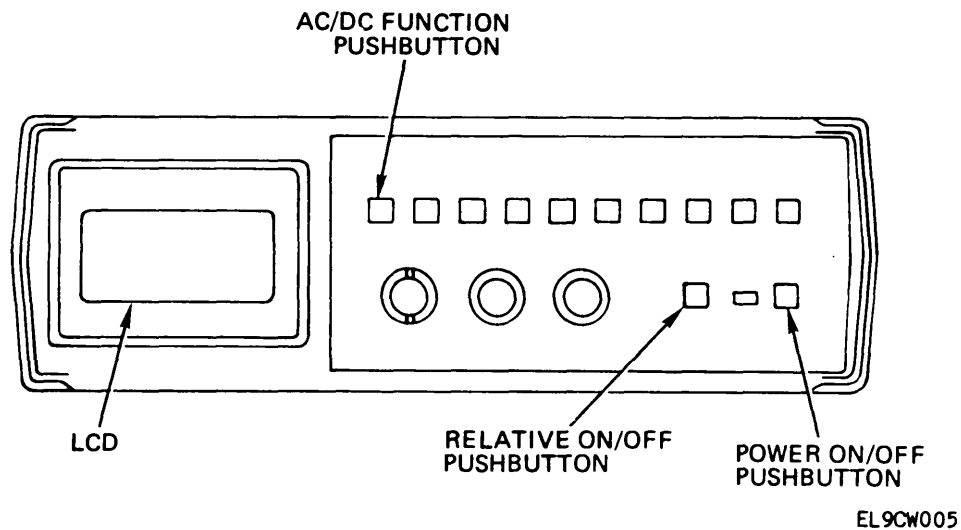

Figure 1-4. POWER, RELATIVE, and AC/DC Pushbuttons
b. **POWER ON/OFF Pushbutton.** The green POWER ON/OFF pushbutton (figure 1-4) is a push-push switch. In is (ON) and out is (OFF). With no ac power connected to the multimeter, the pushbutton energizes the multimeter with battery power. The batteries will charge in the out (OFF) position if a power cord is plugged into the rear of the multimeter and connected to an ac line source. The multimeter will also operate on ac line power in the in (ON) position, provided the batteries are not discharged.
c. **RELATIVE ON/OFF Pushbutton.** The white RELATIVE ON/OFF pushbutton, just to the left of the POWER ON/ OFF pushbutton (figure 1-4), allows direct measurements to be made in relation to a reference level. When the RELATIVE ON/ OFF pushbutton is in (ON), the LCD displayed value is the input signal measurement with a stored reference level algebraically subtracted.
d. **AC/DC Function Pushbutton.** This pushbutton (figure 1-4) is used to select either ac or dc measurements. It works for both voltage and current measurements. Push in once for (AC) and in again for (DC).